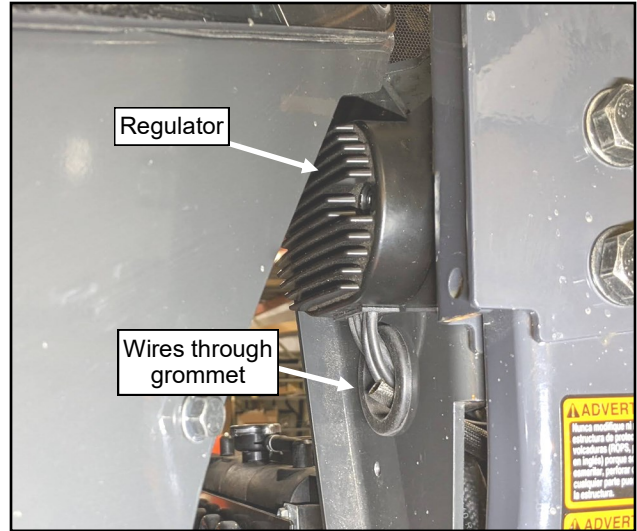
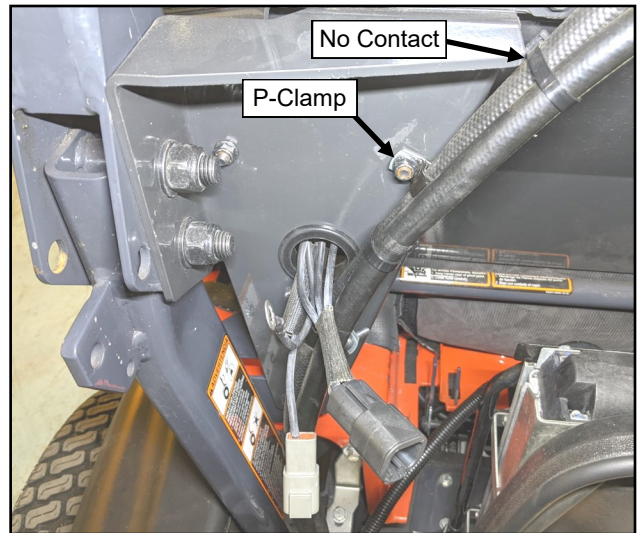
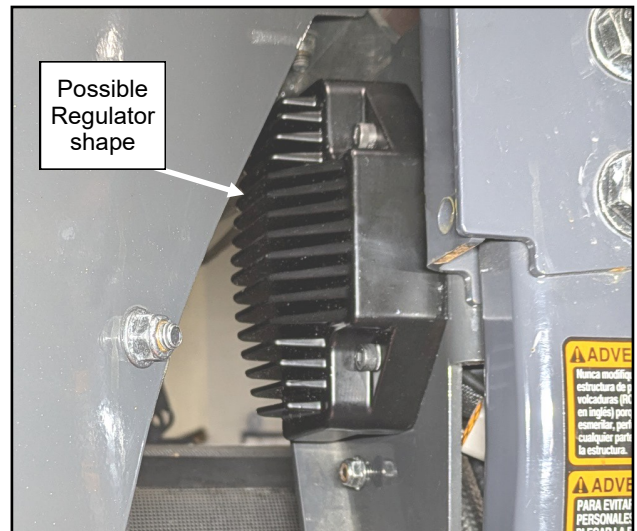

Fig. 6.4a (Secure Regulator to ROPS Bracket)
Fig. 6.4b (Secure Regulator to ROPS Bracket)
Fig. 6.4c (Possible Alternate Regulator version)
6.4 See figs. 6.4a and 6.4b. Pass the regulator wiring through the grommet and install the regulator to the front of the left ROPS bracket. With one of the regulator mounting bolts and nuts, secure the A/C hose with a p-clamp as shown in figure 6.4b. Twist clamp and adjust hose position so that hose does not contact sharp edges of ROPS bracket.
Note: The supplied regulator might look like the version shown in fig. 6.4c. Pass the regulator wiring through the grommet and install the regulator to the front of the left ROPS bracket. With a button head bolt and nut, secure the A/C hose with a p-clamp as shown in figure 6.4b. Twist clamp and adjust hose position so that hose does not contact sharp edges of ROPS bracket.
7.1 See fig. 7.1. Connect the dynamo and regulator power wiring harnesses to the regulator. Further down the ROPS bracket than in fig. 6.4b on the previous page, secure both the regulator and power harness ground wire ring terminals together between another p-clamp on the A/C hose and the ROPS bracket. Twist clamp and adjust hose position so that hose does not contact sharp edges of ROPS bracket.